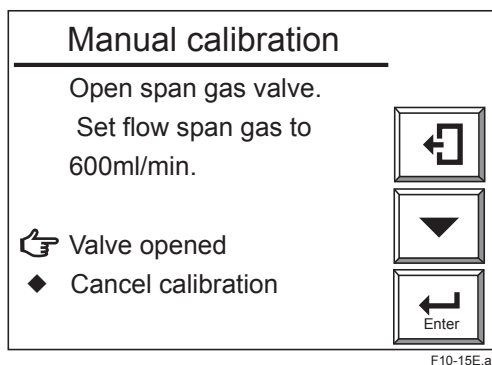
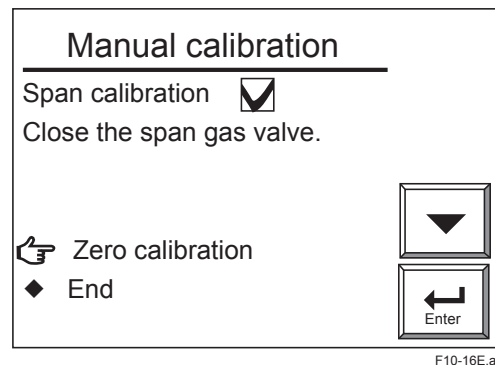

Figure 10.15 Manual Calibration Display
Figure 10.16 Manual Calibration Display
- (1) When the message “Open span gas valve.” is displayed on the converter display during calibration, plug the power cord into the power supply socket to start the pump of the standard gas unit.
- (2) Next, adjust the flow rate to  $600 \pm 60$  ml/min using the span gas valve “AIR” (the flow check ball stops floating on the green line when the valve is slowly opened). To rotate the valve shaft, loosen the lock nut and turn it using a flat-blade screwdriver. Turning the valve shaft counterclockwise increases the flow rate.
- (3) After adjusting the flow rate, tighten the valve lock nut.
- (4) Select “Valve opened” (to start calibration) in the Manual calibration display shown in Figure 10.15. Check the Trend graph display to see that the measured value is stabilized. Then press the [Enter] key. The Manual calibration display shown in Figure 10.16 appears. Disconnect the power cord to stop the pump.
- (1) When the display shown in Figure 10.15 appears during calibration, open the span gas flow setting valve of the flow setting unit and adjust the flow rate to 600 ± 60 ml/min. Turn the valve slowly counterclockwise after loosening the lock nut if the valve has a lock nut. To check the flow rate, use the calibration flowmeter. If the sample gas pressure is extremely high, adjust the sample gas pressure to obtain pressures (listed in Table 10.6) ±10%.
- (2) Adjust the flow rate and select "Valve opened" in the Manual calibration display. Check the Trend graph display to see that the measured value is stabilized. Then press the [Enter] key. The Manual calibration display shown in Figure 10.16 appears.
- (3) Close the span gas flow setting valve to stop the span gas (air) flow. If the valve has a lock nut, be sure to tighten the lock nut to prevent any leakage of the span gas into the sensor during measurement.